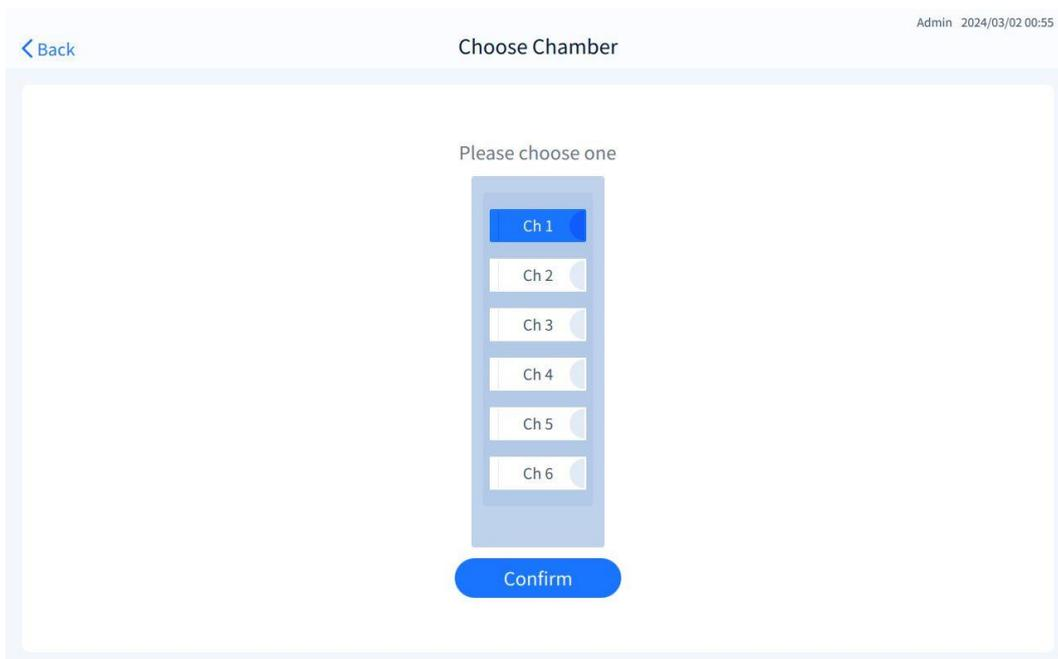

Figure 6-24
Click [Edit], enter password of current user, insert the slide according to the screen tip, and enter the interface as shown in Figure 6-24.
③ Count results for each chamber: The concentration/viability bias among the 3 views exceeds the upper limit of the allowable CV value of total concentration/viability (if any)/transfection rate (if any) as set in Count type-General (Figure 6-24).